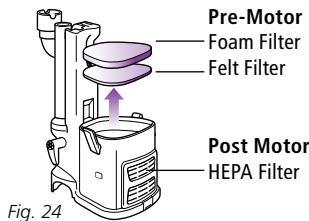

Fig. 24
- Pull the 2 filters out from the top of the motor base. (Fig. 24)